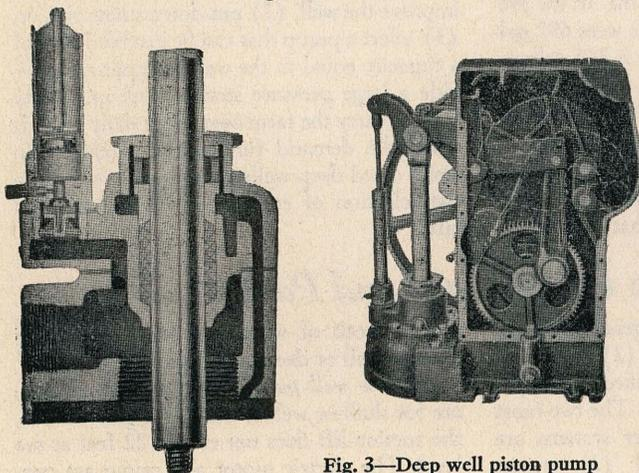

Fig. 3—Deep well piston pump
*The deep well model* (See fig. 3) has the pump working head and motor located as a unit directly over the well. The pump cylinder containing the piston and valves is located in the well below water level and connected to the pump by means of a long connecting rod inside the